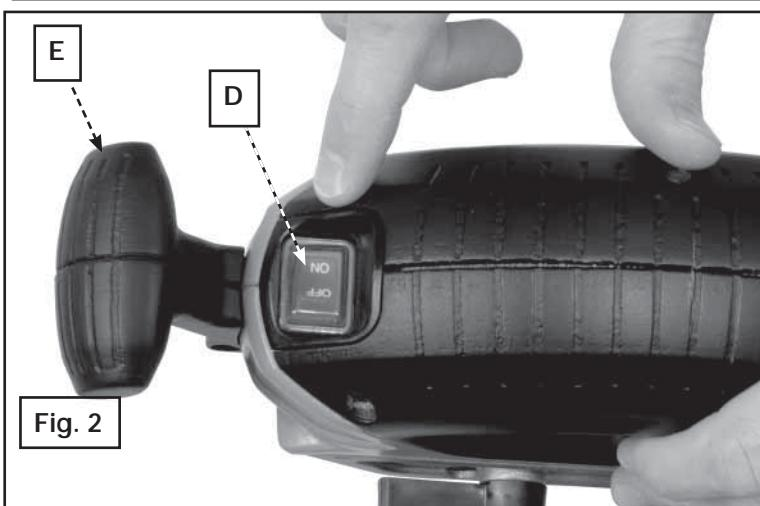

Fig. 2
WARNING: To reduce the risk of injury, be sure sander is turned off and disconnected from the power supply when changing the sanding belt. Before reconnecting the tool, make sure the switch (D) Fig. 2 is in the off position.
To turn unit on, depress the side of the dust-protected switch (D) Fig. 2 that reads "ON" and corresponds to the symbol "I." To turn the unit off, depress the side of the switch that reads "OFF" and corresponds with the symbol "O."
The front auxiliary handle is removable to allow the sander into tight spaces. The unit comes with the handle (E) Fig. 2 installed as shown. To remove the handle, loosen the screw (S) Fig. 4 in the center of the handle using a flat head screwdriver and then remove handle and screw.
2. Turn on switch (D) Fig. 2 to start the belt.
This can be a one-handed tool. Proper hand position would be to have one hand on the rubber portion of the body, as shown in Fig. 6. If needed, the other hand can grip the auxiliary handle (E) Fig. 2.